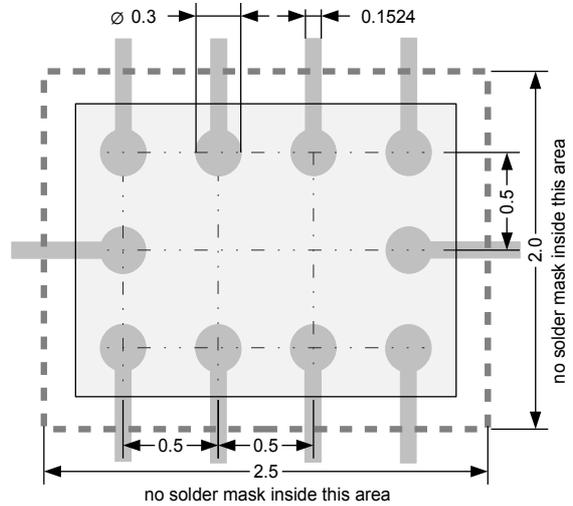

Figure 24: CSP10: Layout recommendation
- Use a pad layout similar as given in Figure 24. Notice that all tracks should go underneath the solder mask area.